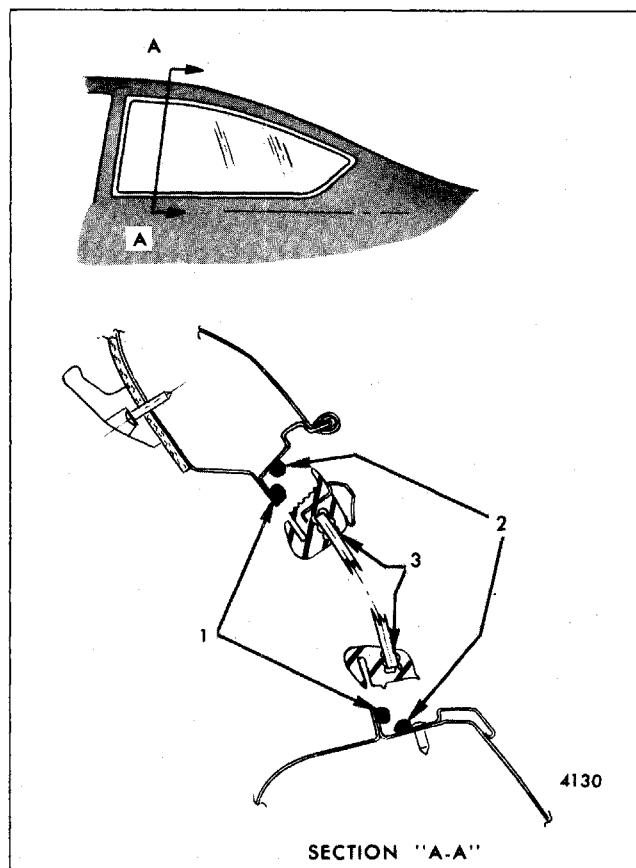

Fig. 11-16-Stationary Quarter Window Installation
4. Apply a continuous bead of medium body sealer about 6 mm (1/4") in diameter to window opening pinchweld flange (1 in Fig. 11-16) completely around window opening.
5. Apply a second continuous bead of medium body sealer to window opening (2 in Fig. 11-16) to seal outboard lip of rubber channel.
8. Using a pressure type applicator, apply black weatherstrip adhesive between outer lip of rubber channel and glass completely around rubber channel (3 in Fig. 11-16).